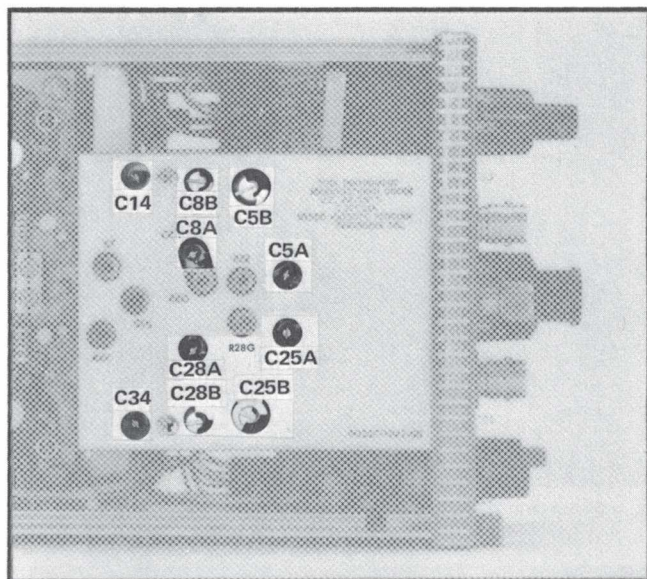
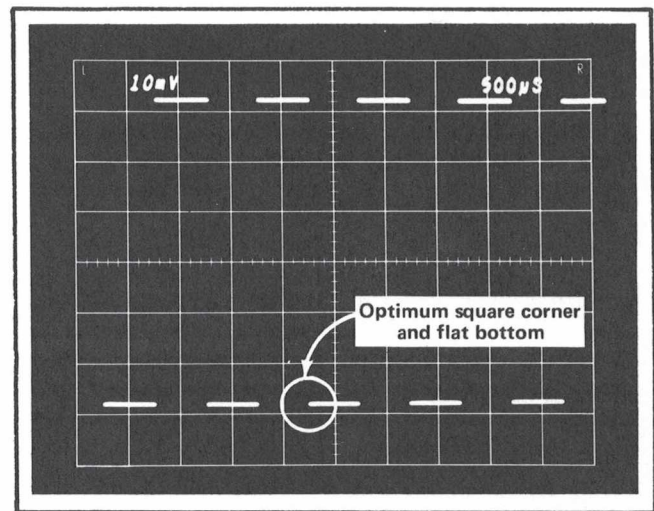

Fig. 5-13. Adjustment locations used in the Attenuator Compensation Adjustment procedure.
Fig. 5-14. Checking for optimum — INPUT waveform at sweep rate of 0.5 ms/div.
Fig. 5-12B through 5-12E are some waveform examples obtained when the adjustments were misadjusted. Fig. 5-13 shows the location of the adjustments.
- h. CHECK—The waveform should have a flat bottom as illustrated in Fig. 5-14. Aberrations should not exceed $\pm 1\%$ or ± 0.06 division for a 6 division peak-to-peak display.
i. ADJUST—The — INPUT shunt capacitance C34 and the attenuator adjustments listed in Table 5-6 for a square lower front corner and flat bottom (see Fig. 5-14). The procedure used here is similar to the procedure used in performing step 18. Fig. 5-13 shows the locations of the adjustments.